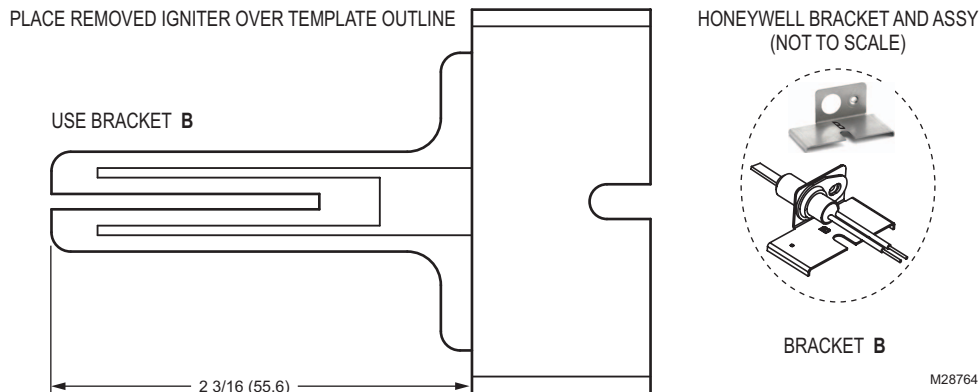
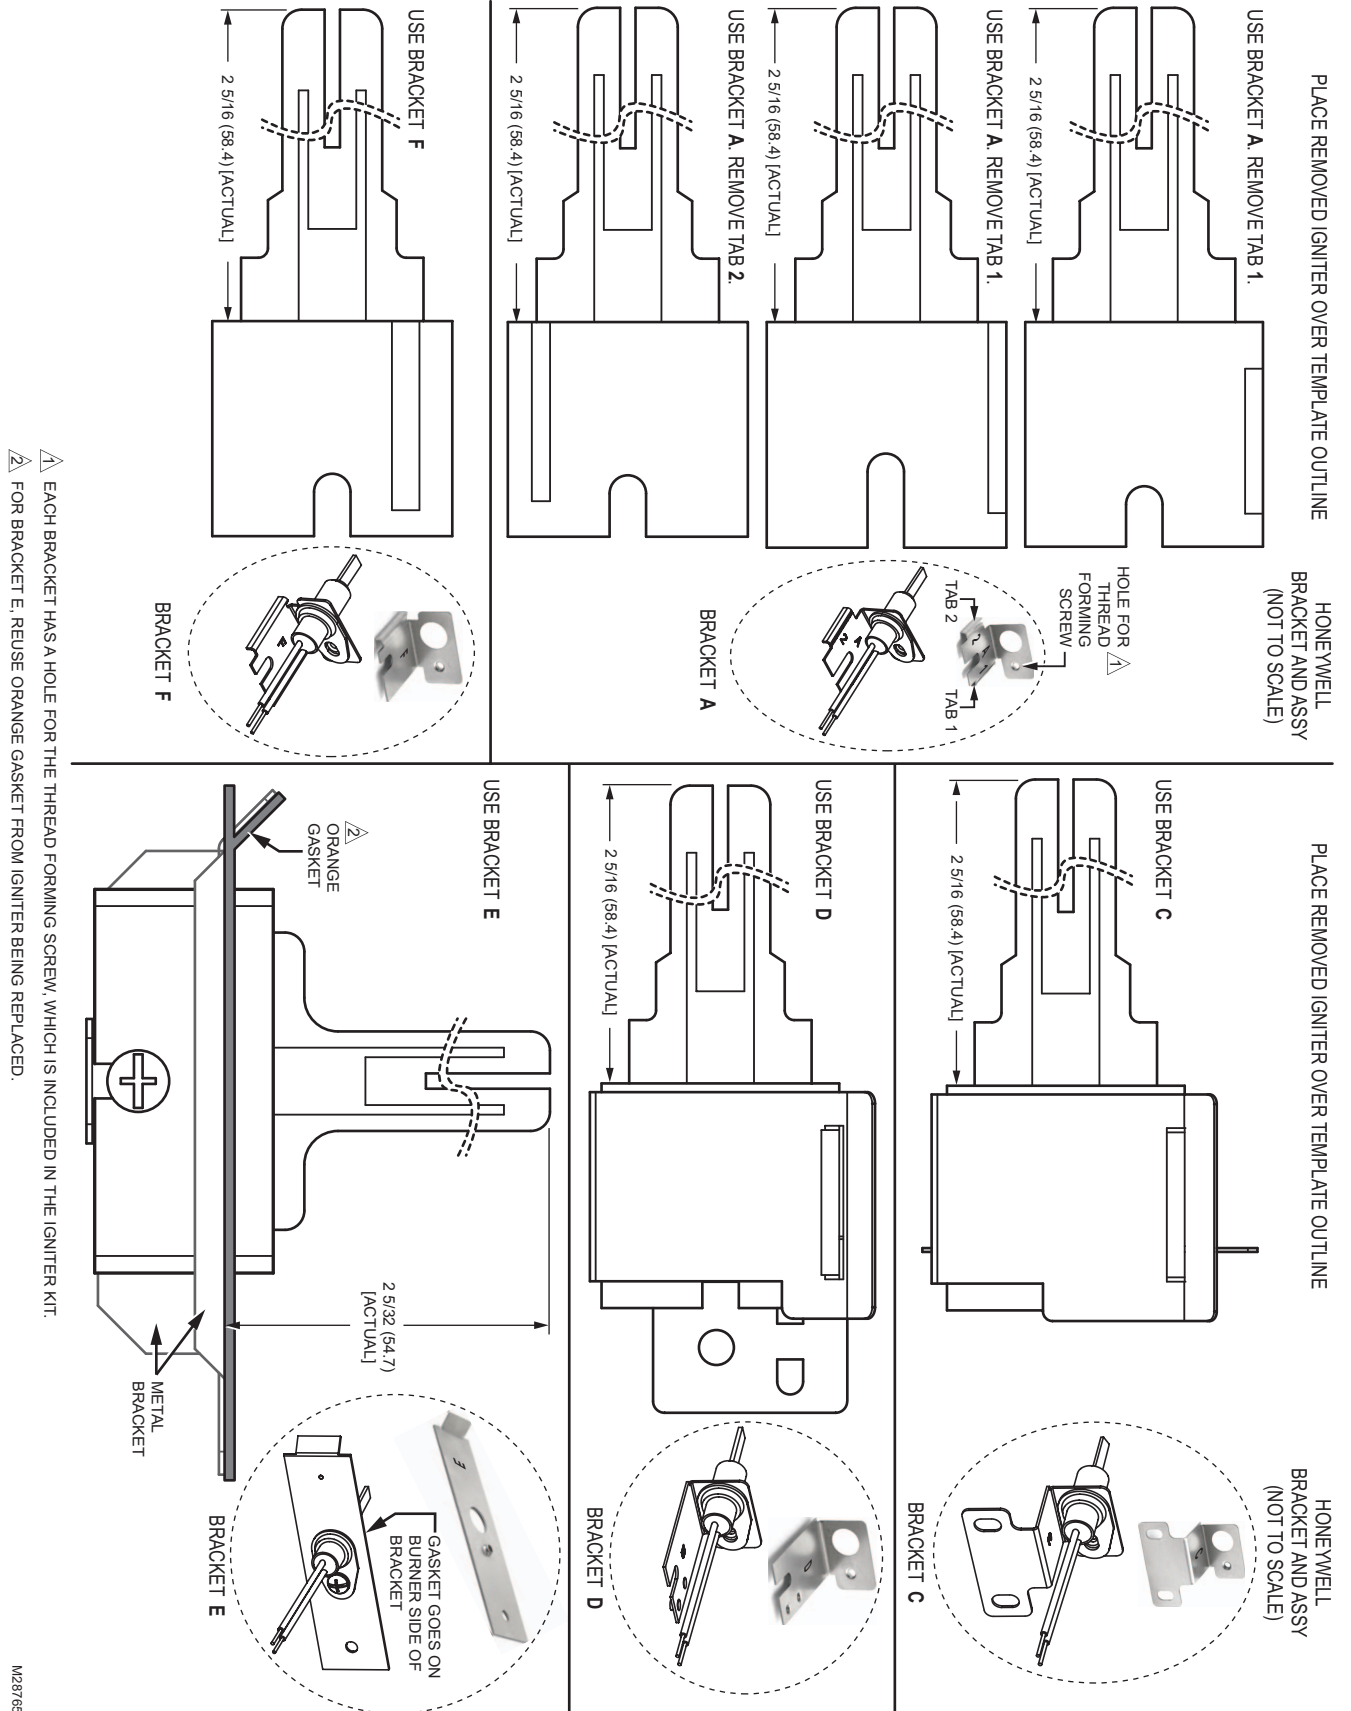

Fig. 1. Igniter bracket B template; dimensions in in. (mm).
Fig. 2. Igniter brackets A, C, D, E, and F template; dimensions in in. (mm).
2. Check the cross reference table on page 4 and the templates (Fig. 1 on page 2 and Fig. 2 on page 3) to make sure the proper igniter bracket is used for your application.
2. Using the bracket selection templates (Fig. 1 and Fig. 2), the cross reference (Table 1), and the original igniter assembly, place the igniter on the templates to confirm which bracket to use for this installation.
b For igniters that require bracket A, use the template (Fig. 2 on page 3) to determine the tab to be removed.